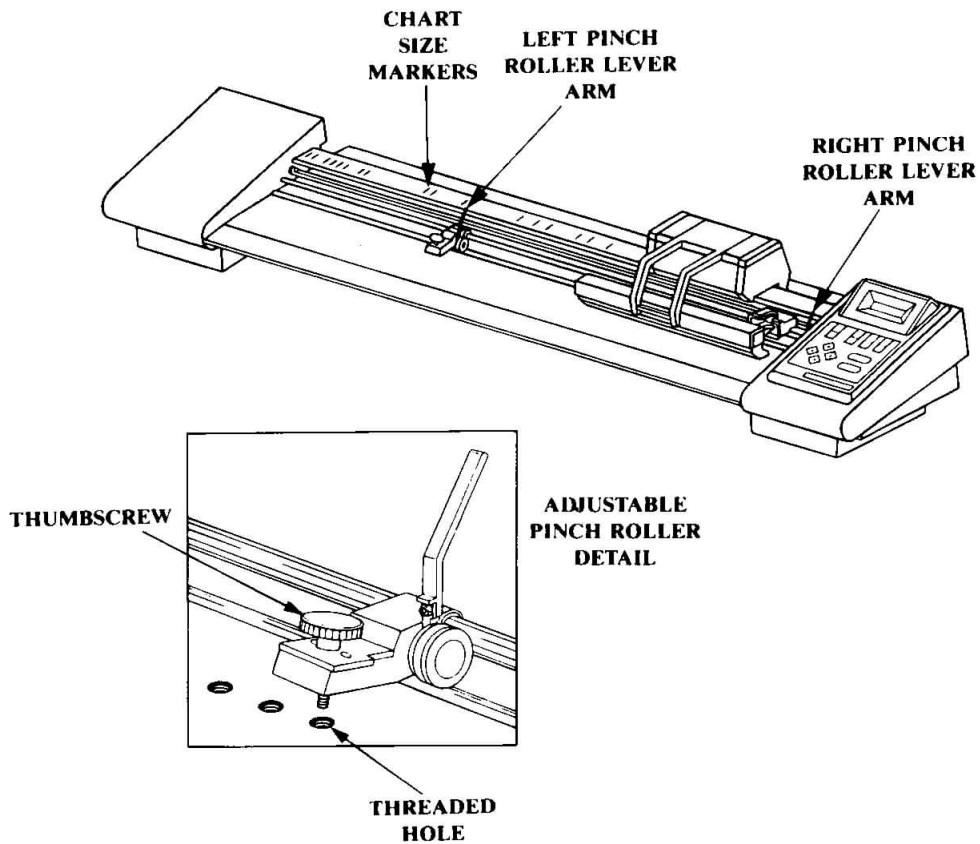

FIGURE 3-1. CHART SIZE SETTING
1. Raise the left pinch roller arm. See Figure 3-1.
1. Set the power switch on (1).
2. Raise the left and right pinch roller arms. See Figure 3-1.